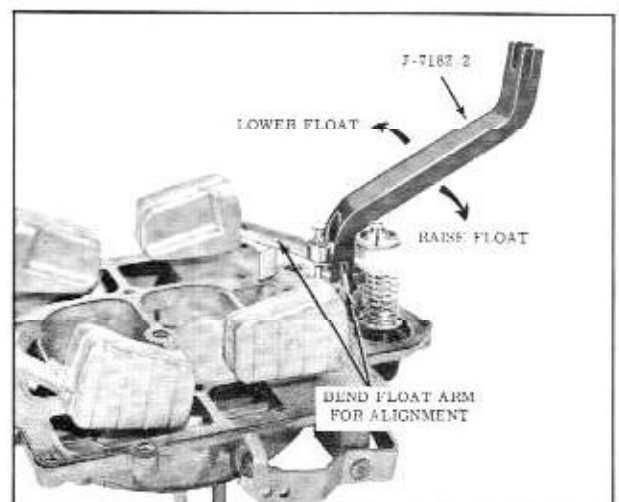

Fig. 8-107 Adjusting Float Level (Primary Shown)
3. If necessary to adjust, bend the float arm as indicated in Fig. 8-107.